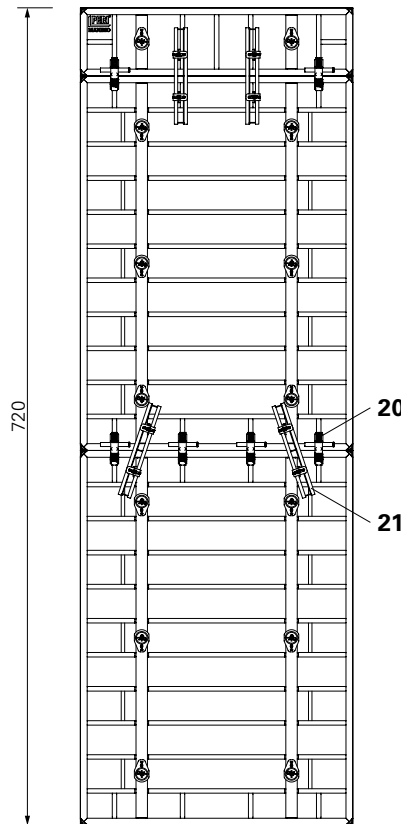
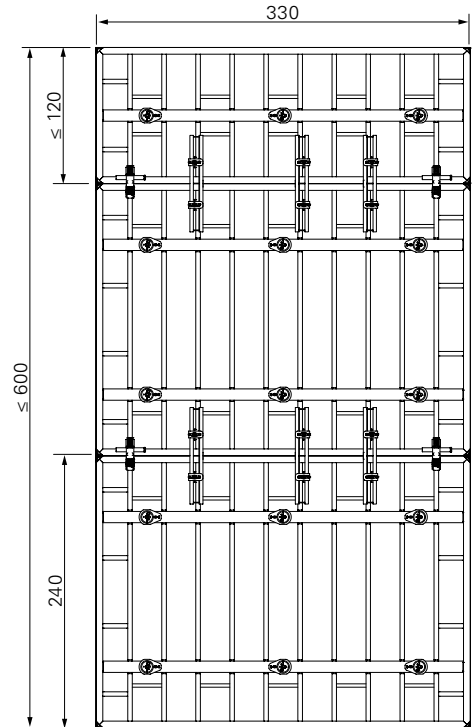

Fig. C12.03a
Fig. C12.03b
- $H = 7.20$ m (Fig. C12.03a)
- on panel joint 330 – 330, install Alignment Coupler BFD (20) and Compensation Waler MAR 85 (21),
- on panel joint 330 – 60, install Alignment Coupler BFD (20).
- For extension units $H \leq 6.00$ m, Alignment Couplers BFD (20) and Compensation Walers MAR 85 (21) are to be used on the panel joints. (Fig. C12.03b)